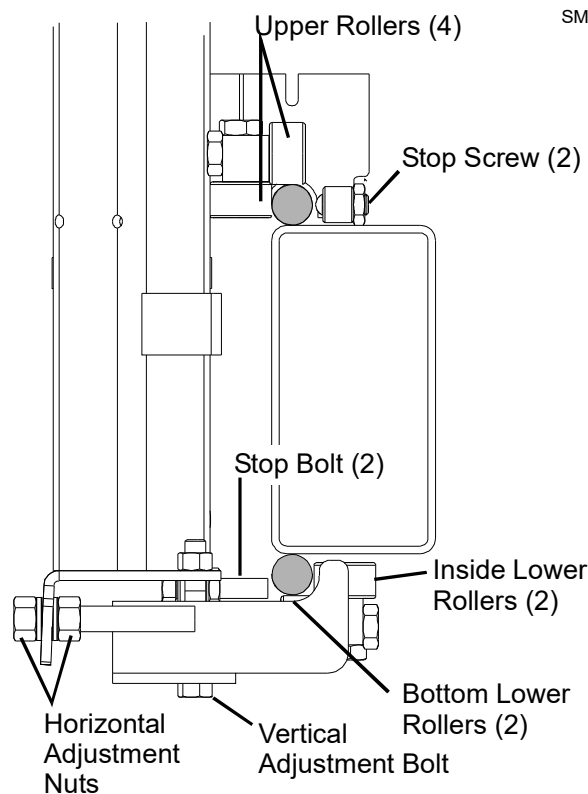

FIG. 5-5
**See Figure 5-5.** Making these adjustments correctly will give you square cuts and accurate dimensions across the width of your boards.